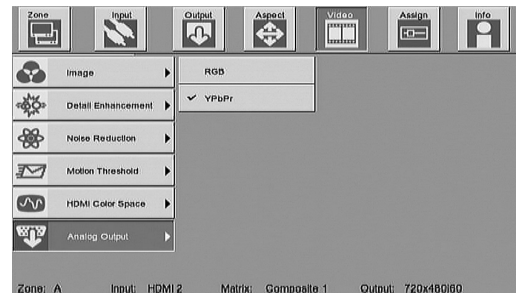

Figure 77
2. Select the VIDEO Icon, then select the Analog Output Icon. Refer to figure 77.